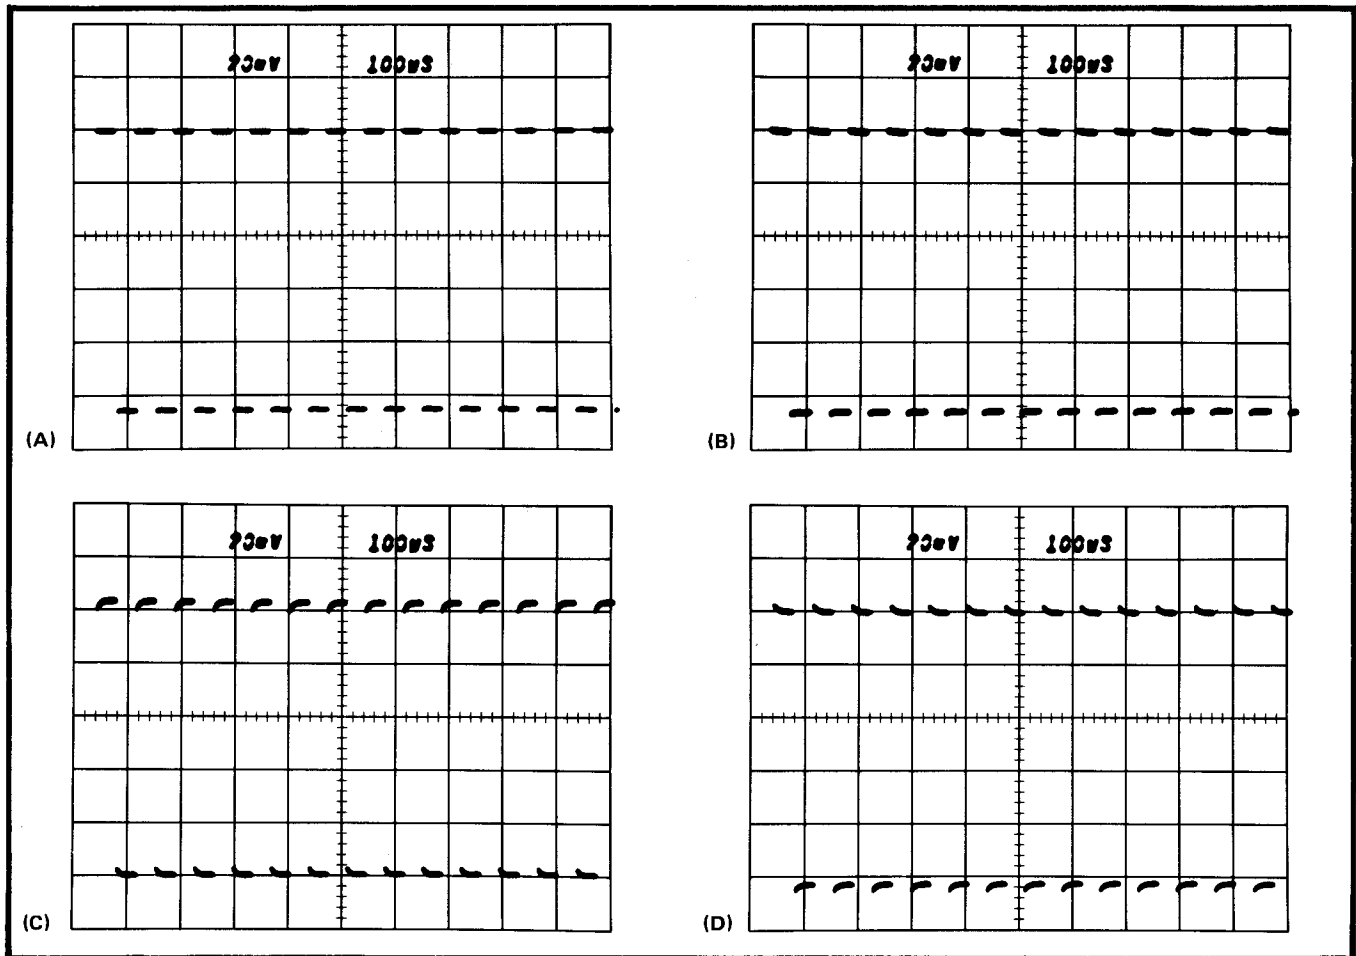

Fig. 5-2. CRT display showing (A) correct compensation, (B) tilt, (C) undercompensated front corner and (D) overcompensated front corner.
c. ADJUST—C6 for best flat top (minimum tilt) on the displayed waveform (see Fig. 5-2).
b. ADJUST—Using Table 5-2 as a guide, adjust attenuator compensation for best flat top (see Fig. 5-2). Maintain a five-division display (remove the 5X attenuator when necessary) except that in the 2 V and 5 V positions, the maximum display amplitude will be less than five divisions.
10. Adjust Attenuator Series Compensation ①
b. ADJUST—Using Table 5-3 as a guide, adjust attenuator series compensation for optimum square corner (see Fig. 5-2). Maintain a five-division display (about three divisions in the 5 V position) for all positions of the VOLTS/DIV switch.